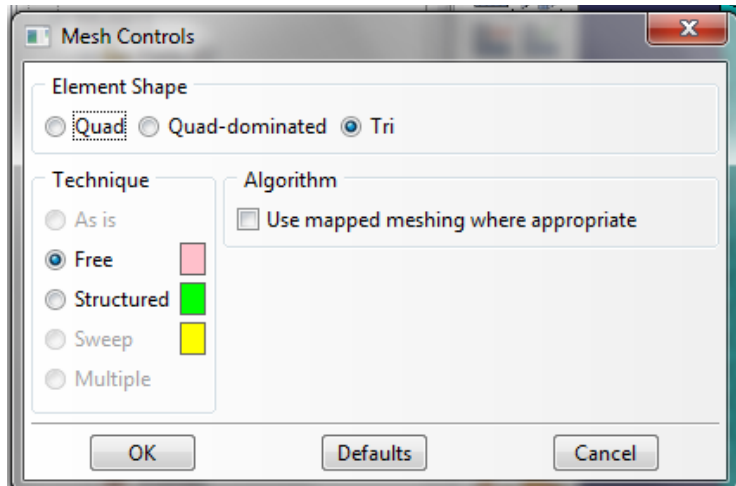

Figure 12
- Under the Mesh menu (top of screen) select Mesh Controls. Select Tri elements and a Free Mesh Technique as in figure 12